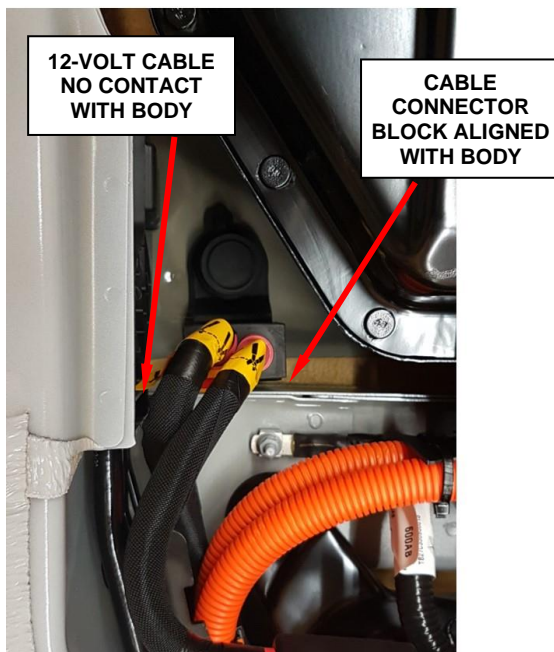

Figure 28 – 12-volt Isolator Post with Attached Guide Removed
30. Remove the attached guide from the 12-volt isolator post. Inspect that the 12-volt isolator post is centered in the vehicle floor pan hole (Figure 28).